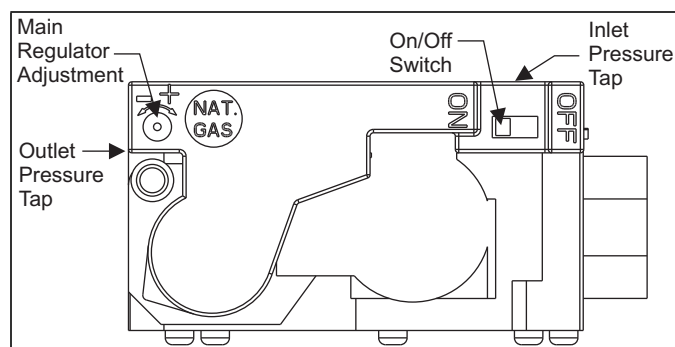

FIGURE 31: Gas Valve
Inlet and manifold gas pressure may be measured by connecting the "U" tube manometer to the gas valve with a piece of tubing. Follow the appropriate section in the instructions below. Refer to Figure 31 for a drawing of the locations of the pressure ports on the gas valve.
4. Refer to Figure 31 for location of pressure regulator adjustment cap and adjustment screws on main gas valve.